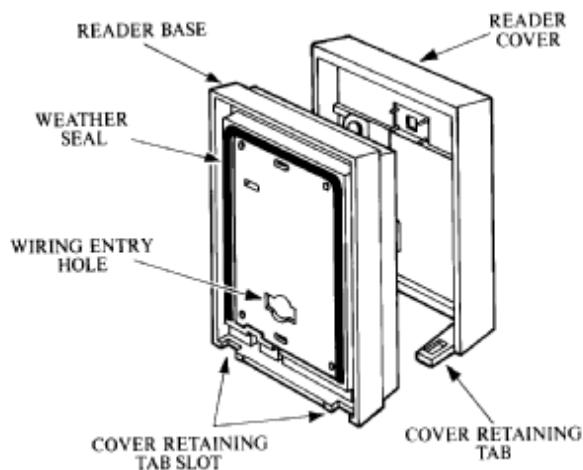

Figure 2
- 9) To attach the reader cover, place the “ridge” on the inside top of the cover into the corresponding “channel” on the reader base, and then push the lower portion of the cover toward the base until the cover release tabs “pop” as they lock in place. See FIG.2.